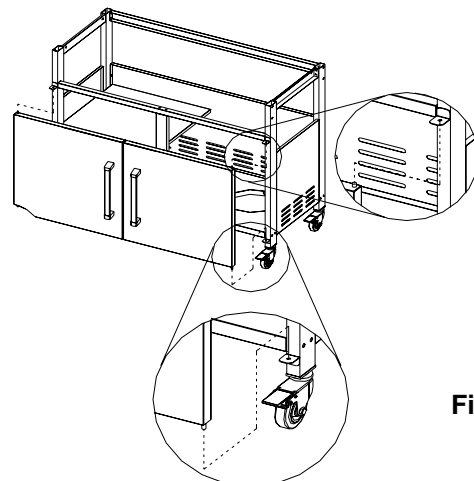

Figure 10
5. Assemble door handles to doors with (4) 5/32 x 3/8" Phillips head screws and (4) 5/32" flat washers. Insert right door bottom hinge pin into hole in door bottom bracket on cart. Push down on top door hinge pin to insert it into hole in door top bracket on cart. Repeat for other door. (Fig.10)